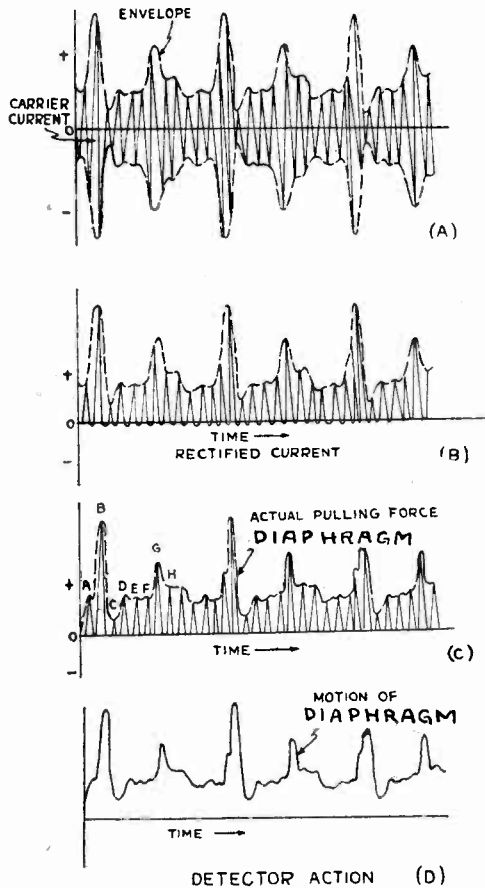

Fig. 29
To make the signal audible, and the voice currents heard, the circuit must be arranged so the diaphragm does not follow the current variations in each individual cycle of the carrier wave, since this is a high frequency and we are not interested in hearing it. The diaphragm must be made to follow the variations in the maximum strength of the current in one direction: i.e., follow the wave form or envelope of the high-frequency current. Fig. 29 A. This, it will be remembered, is the true wave form of the voice waves.
able to flow through easily. On the next half cycle the voltage is reversed and tends to send current in the opposite direction. The detector contact offers a very high resistance to current flow in that direction, so very little current is allowed through. The action is repeated for each cycle. This is shown graphically in Fig. 29 A and B, where A is impressed alternating current and B is the rectified pulsating current.
48. **DETECTION:** The pulses or fluctuations of current would still seem to be too rapid to actuate the diaphragm, since their frequency is that of the carrier current. Their effect on the receiver diaphragm, however, is for each wave train to give force by successive addition, as can be seen from the following. The first impulse A, Fig. 29 C, passes through the earphone coils and produces a movement of the diaphragm. If the station is transmitting at say 200 meters, corresponding to a frequency of 1,500,000 cycles per second, then the time interval between two successive maximum values of currents, as A and B, is one million five hundred thousandth of a second. Obviously, since the diaphragm has inertia and stiffness, it is somewhat sluggish in action and cannot possibly make a complete vibration in this time, so the second impulse B will occur before the diaphragm has had time to spring back in place, and will therefore deflect it further. So will the following impulses C, D, E, etc., the result being that the diaphragm is deflected once for every wave train and its motion follows more or less faithfully the shape of the envelope of the carrier current, as shown in Fig. 29 C. Since this is the same shape as the wave form of the sound impressed at the broadcasting station, the movement of the diaphragm sets up similar sound waves which can be heard by the listener at the receiving station. The changing of the electric currents induced in
The operation is then as follows: During the period of duration of one impulse A of the rectified current of Figs. 29 C and Fig. 32 B, the current flows through the earphone